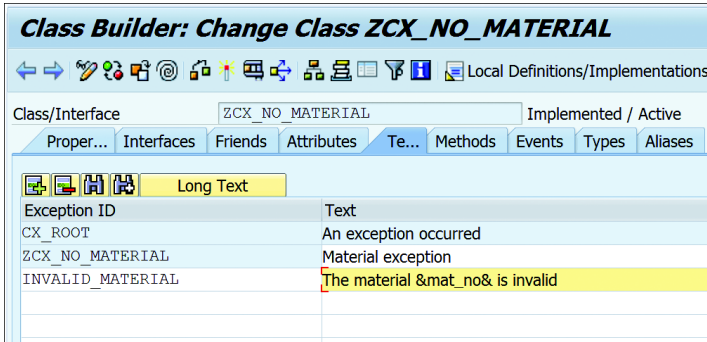

Figure 9.20 Maintaining Exception ID and Text
2. Under the TEXTS tab, maintain an EXCEPTION ID and a TEXT. You can pass the attribute value in the message by keeping the attribute name between ampersands (&), as shown in Figure 9.20. Here, we've maintained the EXCEPTION ID as INVALID_MATERIAL and the text as The material &mat_no& is invalid by enclosing the attribute within ampersands. You can also maintain long text for the message by clicking the LONG TEXT button. When finished, click ACTIVATE.